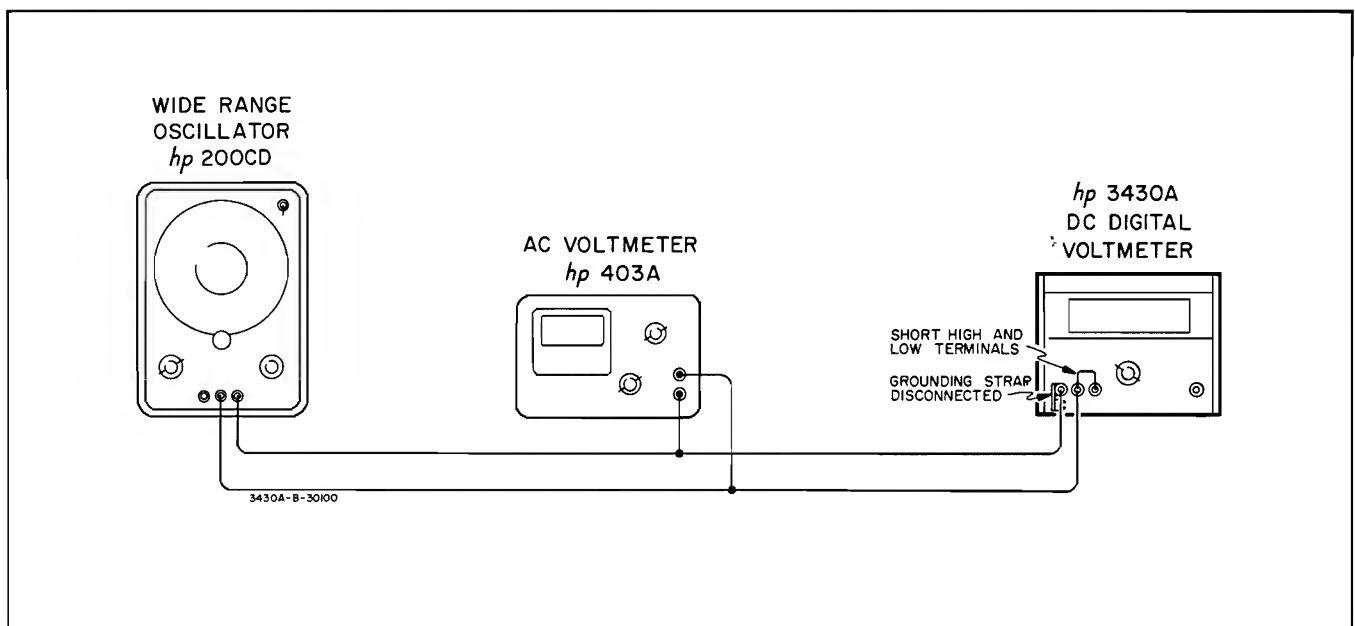

Figure 5-5. AC Common Mode Rejection Check
- a. Connect the 3430A as shown in Figure 5-5.